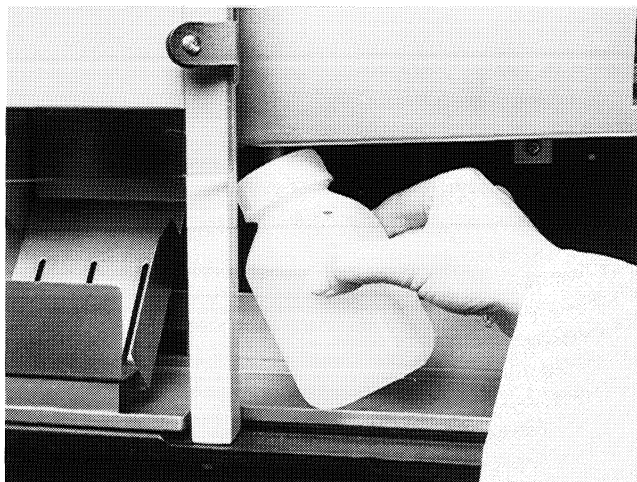

Figure 6-1
1. Carefully remove the waste bottle from under the waste spout (Figure 6-1). Empty the bottle before the liquid level reaches the air hole at the top of the bottle. Also, be sure the air hole is to the right before tilting the bottle from under the spout.